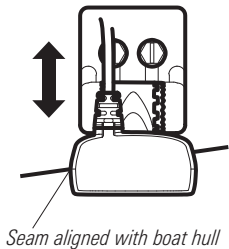

Figure 23
- Adjust the transducer assembly vertically, until the seam on the leading edge of the transducer (the edge closest to the transom of the boat) is level and just slightly below the hull (Figure 23).
5. If you have the correct angle set on the transducer, yet lose a bottom reading at high speed, adjust the height and the running angle in small increments to determine the ideal transducer position for your boat. First, adjust the height in small increments (Figure 23).